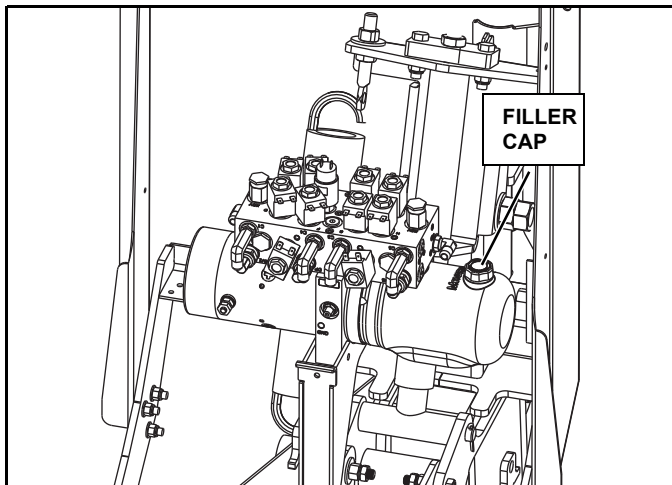

Figure 2-6
5. Remove the filler/breather cap from the reservoir (See Figure 2-6).